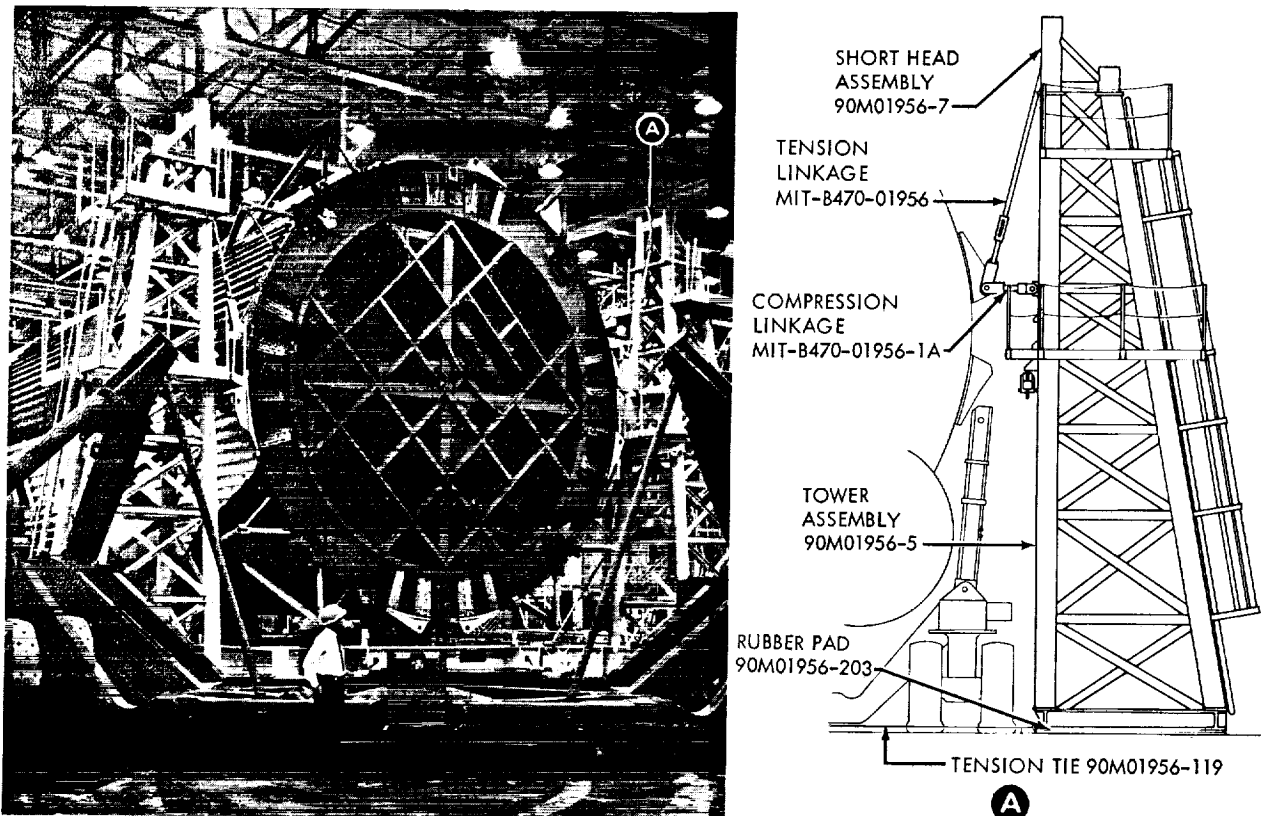

Figure 8-2. S-IC Transfer "A" Frame - Utilization
- h. Set the A-frame assembly (90M01956-3) on the neoprene rubber pads per figure 8-2.
8-6. S-IC STAGE TRANSFER FROM STORAGE STANDS TO TRANSPORTER. Transfer the S-IC stage from storage stands (90M01961-1 and 90M01970-1) to transporter per figures 8-2, 8-3, 8-4, and 8-5 as follows: